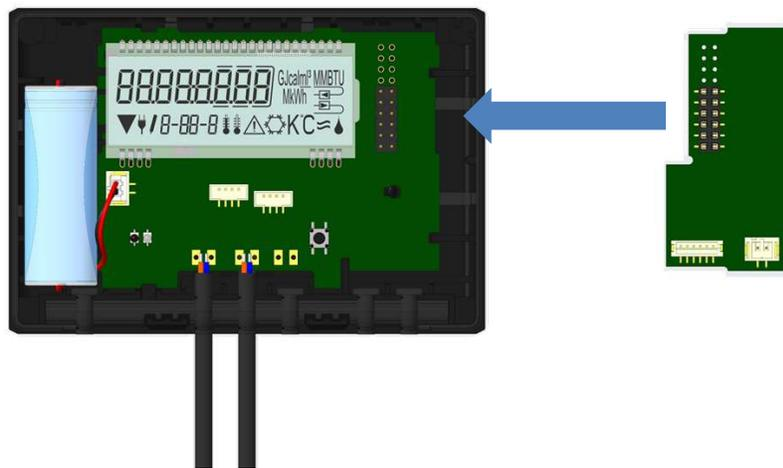

Figure 12: Plug in interface module
4. Plug the interface module on the right side of the PC board (see Figure 12). The cables are to be fed through the rightmost cable feedthroughs into the calculator after removing the blind grommets. Close the calculator.